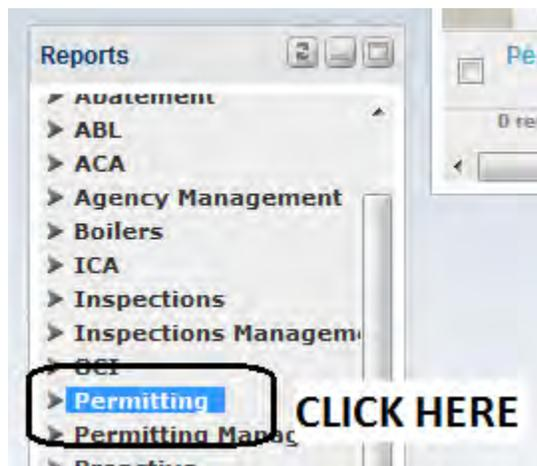

Figure 2.34
43. Navigate to the "Reports" menu located at the left hand side of the Accela home screen and click the "Permitting" link. (see Figure 2.34)